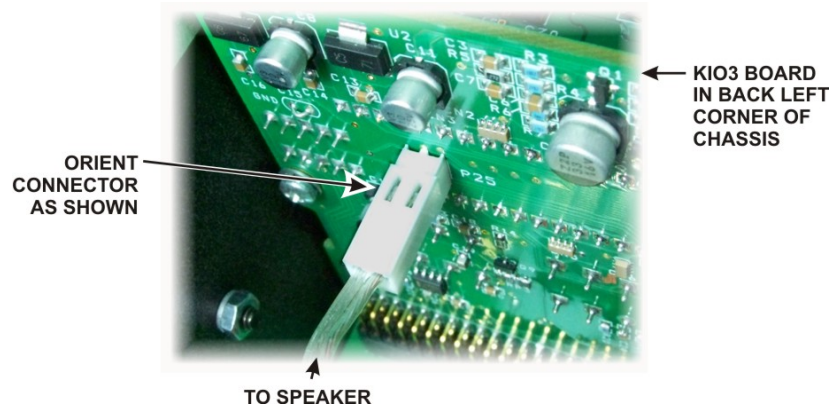

Figure 5. Connecting Speaker Wire.
- Hold the top cover above the K3, route the speaker wire under the stiffener bar and plug it into P25 on the KIO3 board at the left rear of the K3 as shown in Figure 5